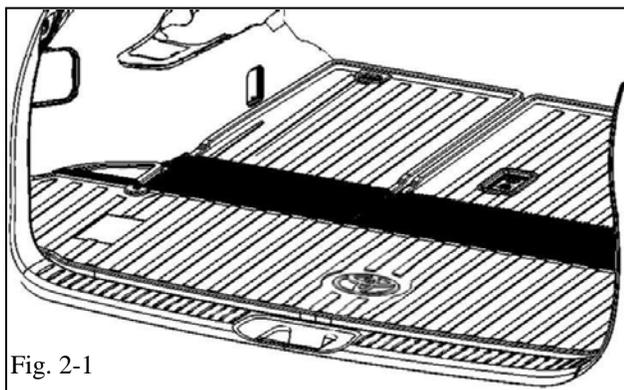

Fig. 2-1
- (a) Place cargo tray in cargo area with logo towards the rear of the vehicle and facing up. (Fig 2-1)